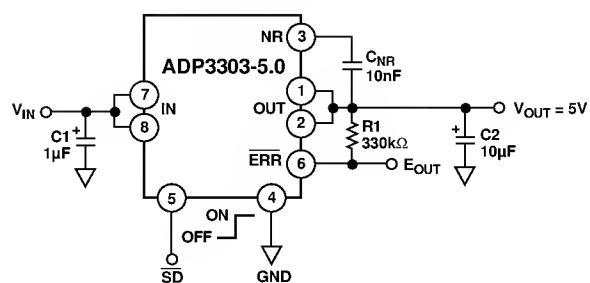

Figure 21. Noise Reduction Circuit
A noise reduction capacitor ( $C_{NR}$ ) can be used to further reduce the noise by 6 dB–10 dB (Figure 21). Low leakage capacitors in the 10 nF–100 nF range provide the best performance. Since the noise reduction pin (NR) is internally connected to a high impedance node, any connection to this node should be carefully done to avoid noise pickup from external sources. The pad connected to this pin should be as small as possible. Long PC board traces are not recommended.